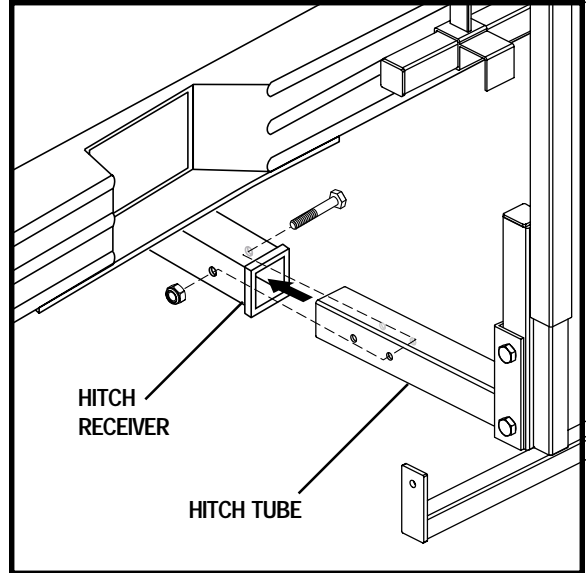

Figure 3. Lift Frame Vehicle Mounting (Class 3 Hitch Tube Shown)
3. If your vehicle is equipped with a Class 2 or Class 3 hitch receiver, slide the hitch tube into the vehicle hitch receiver, aligning the mounting hole closest to the lift with the mounting hole in the hitch receiver. See figure 3.
4. Secure the Class 2 or Class 3 hitch tube with the supplied bolt and nut, inserting the bolt from the passenger's side through to the driver's side of the hitch. See figure 3.